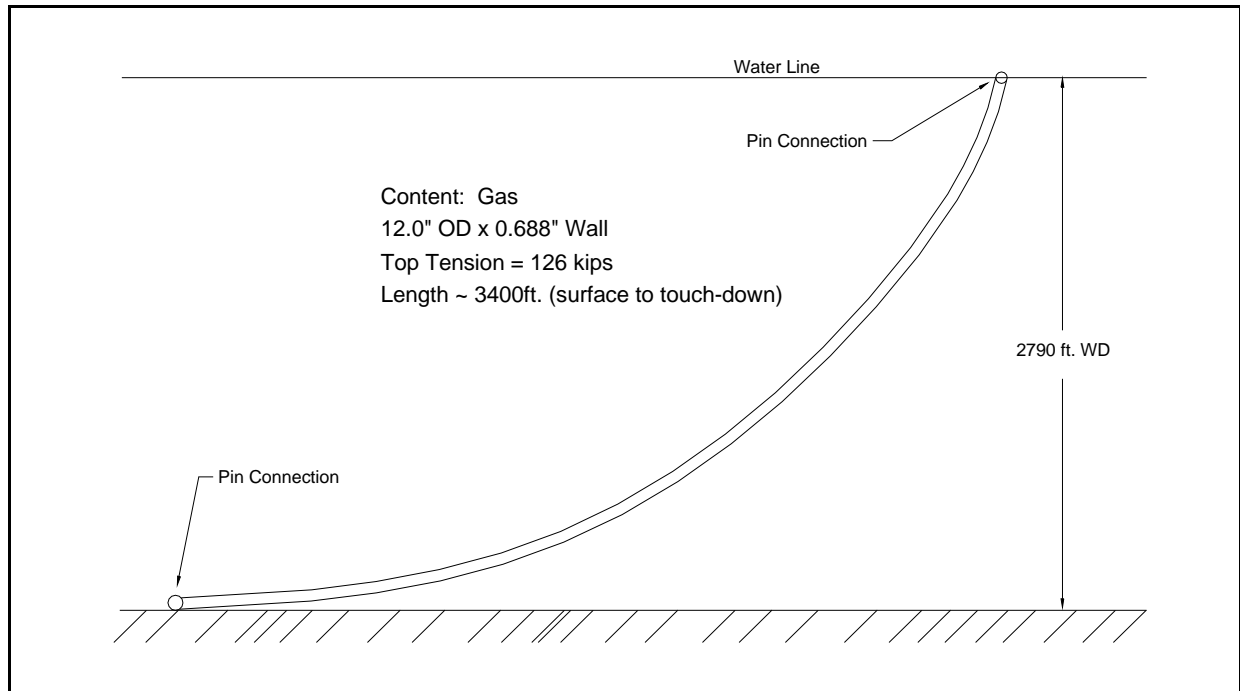

Figure 5.4 Example Problem 4:
- Example 4 is a steel catenary riser in 2790 ft water depth with GOMEX 3.0 knots eddy current (Figure 5.4); and